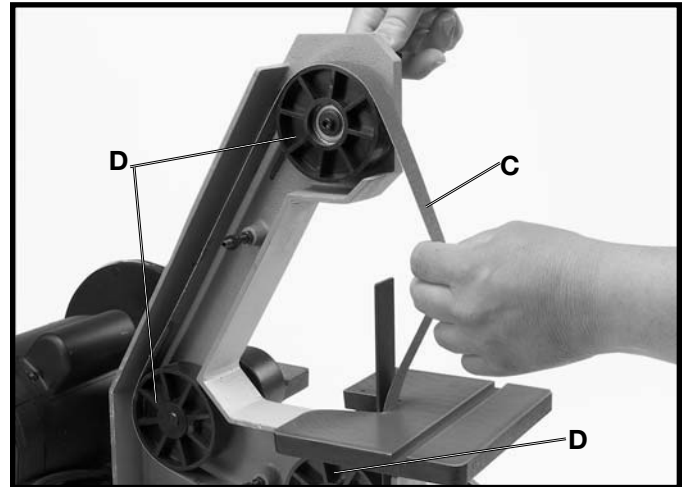

Fig. 32
3. Press down on the tracking knob to release belt tension and remove belt (C) Fig. 32, from the three pulleys (D), as shown.